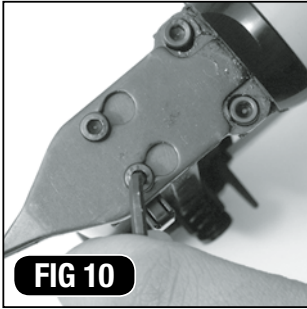

FIG 10
3. Loosen the two screws as shown in (Fig. 10) by one full turn.